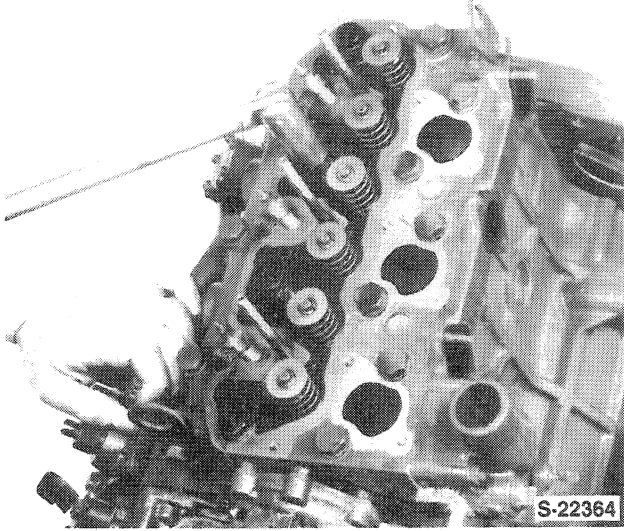

Figure 12
- Remove the cylinder head bolts by alternately loosening a half turn at a time to prevent warping the head, Figure 12.